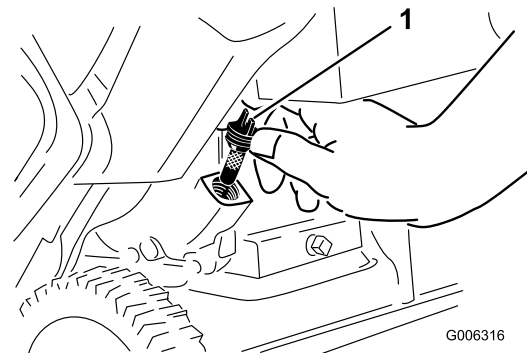

Figure 12
2. Clean around the oil fill cap (Figure 12).